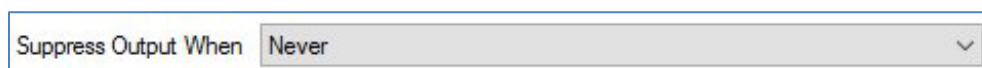

Figure 34 - Suppress Output When: Never
- Selecting **“Never”** means the output port will continue to output time sync signals even when the clock is out of sync. Refer to Figure 34.